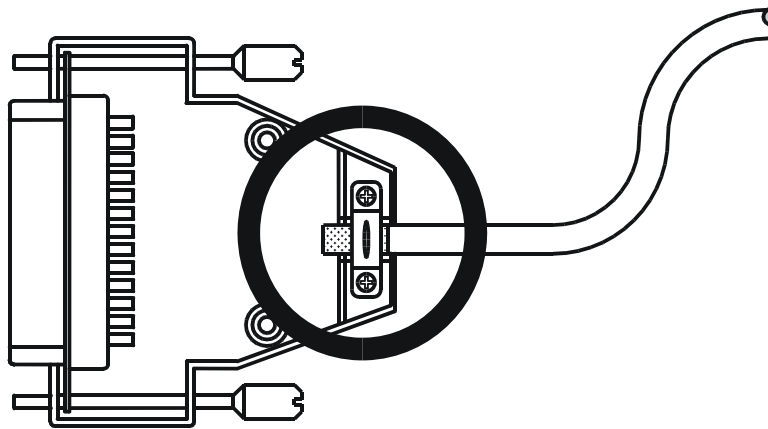

Fig. 2: Shielding of SUB-D connectors in conformity with EMC standards
- Only use metallized connectors, e.g. SUB-D with metallized housing. Make sure that the strain relief is directly connected with the housing in this case as well (see Fig. 2).